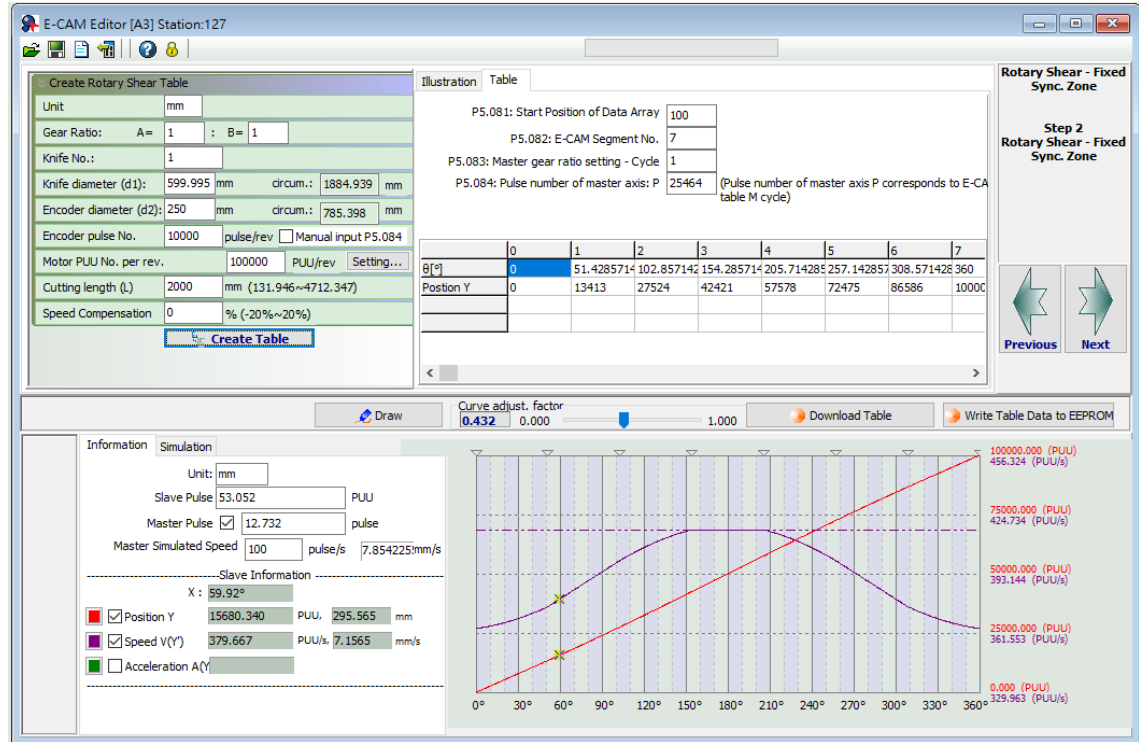

Figure 7-105 SureServo2 Pro setting interface for [Rotary Shear- Fixed Sync. Zone]
This method allows you to create a rotary shear curve with fixed synchronous speed zone, which range is fixed to 51°. You can use SureServo2 Pro to create the table, which parameter setting is similar to the curve for rotary shears without synchronous speed zone, as shown in Figure 7-105. The software automatically limits the cutting length by referring to the ratio (R) of the cutting length (L) and the arc length between cutter ends (a);  $R = L / a$ ;  $R = 0.07 - 2.5$ .